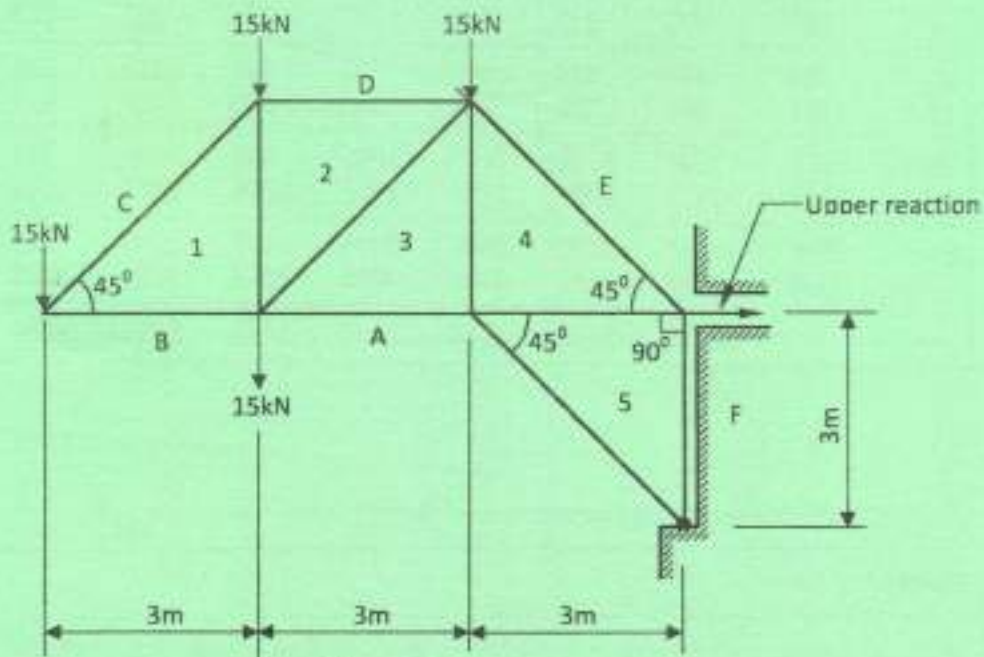

Figure 5
8. (a) Figure 5 shows a truss loaded in such a way that the upper reaction is horizontal.